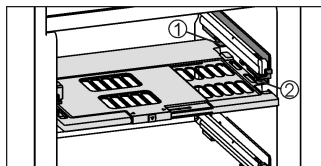

Fig. 11
- ▶ To insert the humidity control plate: Insert the cover mouldings of the plate into the rear holder *Fig. 11 (1)* from underneath and engage them in the holder *Fig. 11 (2)* at the front.